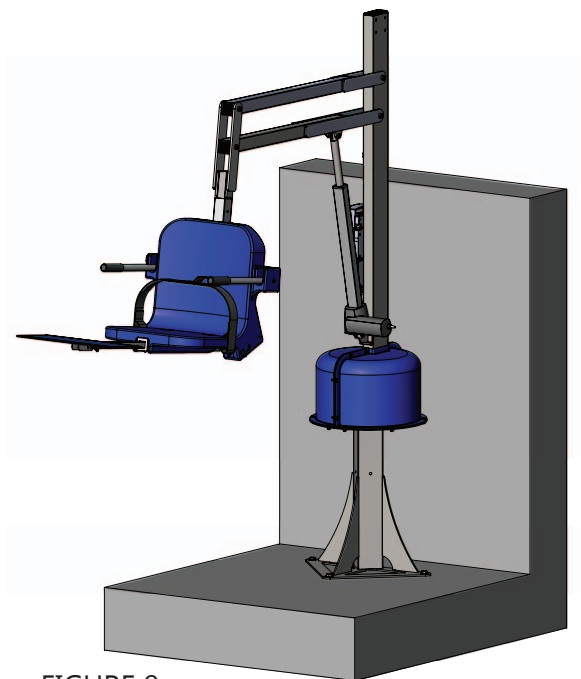

FIGURE 9
8. The Spa Lift Elite is now assembled and ready for use! Be sure the battery is fully charged. FIGURE 9 shows completed assembly mounted on a spa deck. NOTE: With the lift fully assembled, run the lift fully out and back in 3-5 times, without weight, for the lifts "break in" cycle period.